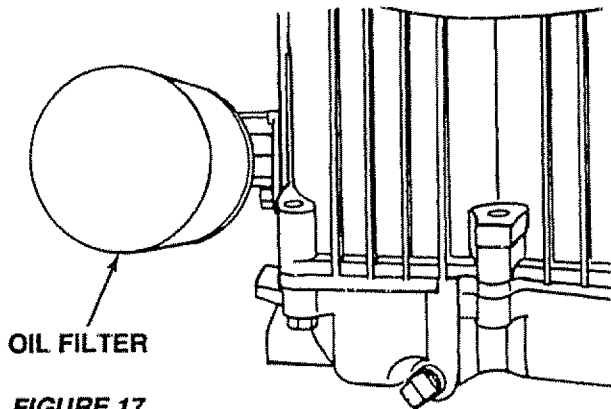

FIGURE 17
- Unscrew old filter (Fig. 17) by turning counterclockwise. Use a suitable container to catch oil.